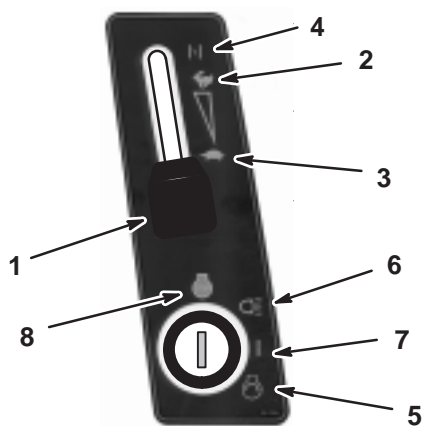

Figure 11
5. When starting a cold engine, move the throttle lever to the Choke position (Fig. 11).
6. Turn the ignition key clockwise and hold it in the Start position (Fig. 11). When the engine starts, release the key.
7. After the engine starts, slowly move the throttle to Fast (Fig. 11).
1. Move the throttle lever to Slow (Fig. 11).
2. Turn the ignition key to Off (Fig. 11).